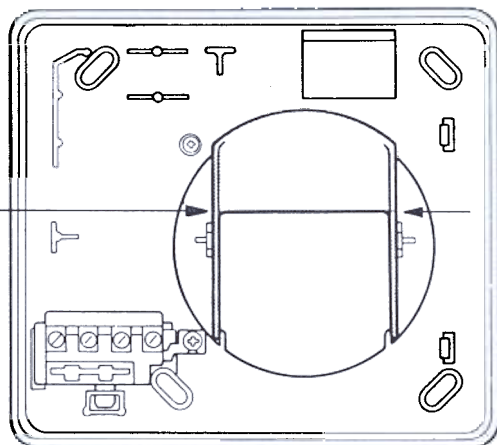

Fig. 17
9.4 Remove the backdraught flap from the backplate (see Figs. 17 and 18) as flaps are provided in the outer cover.
10.6.3 Turn the adjuster knob clockwise to increase and anti-clockwise to decrease speed (see Fig. 16). If it is intended to reduce the speed below the factory setting, it is recommended that the backdraught flap be removed (see Figs. 17 and 18).